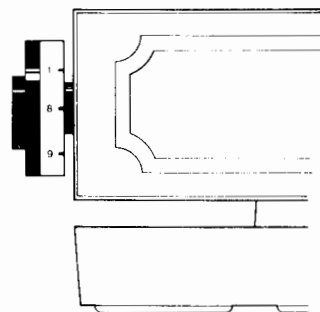

FIG. 5 THERMOSTAT SETTING WITH ROOMHEATER NOT IN USE
- When blazing, close the firedoor, Fig. 1, replace the ashpit door Fig. 2 and set the thermostat control knob to 8 (high) Fig. 5.
- Adjust the thermostat knob, Fig. 5, to give the desired rate of burning.
- Set the thermostat knob (Fig. 5) to the desired number.